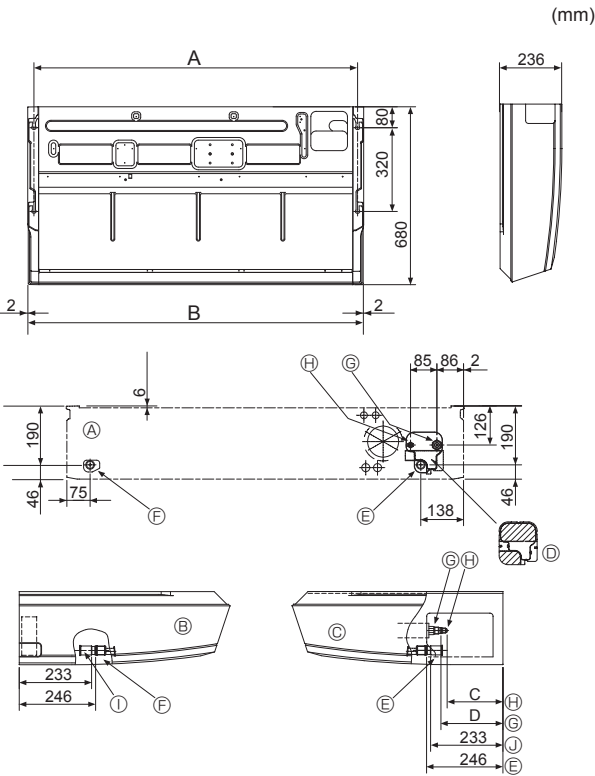

Fig. 3-2
①	Washer	4 pcs
②	Pipe cover	1 pc Large size (For gas tubing)
③	Pipe cover	1 pc Small size (For liquid tubing)
④	Band	4 pcs
⑤	Joint socket	1 pc Marked with "UNIT"
⑥	Socket cover	1 pc
⑦	Drain tubing cover	1 pc
⑧	Flare nut	1 pc ø6.35 (M60 only)
3.2. Preparation for installation (Fig. 3-2)